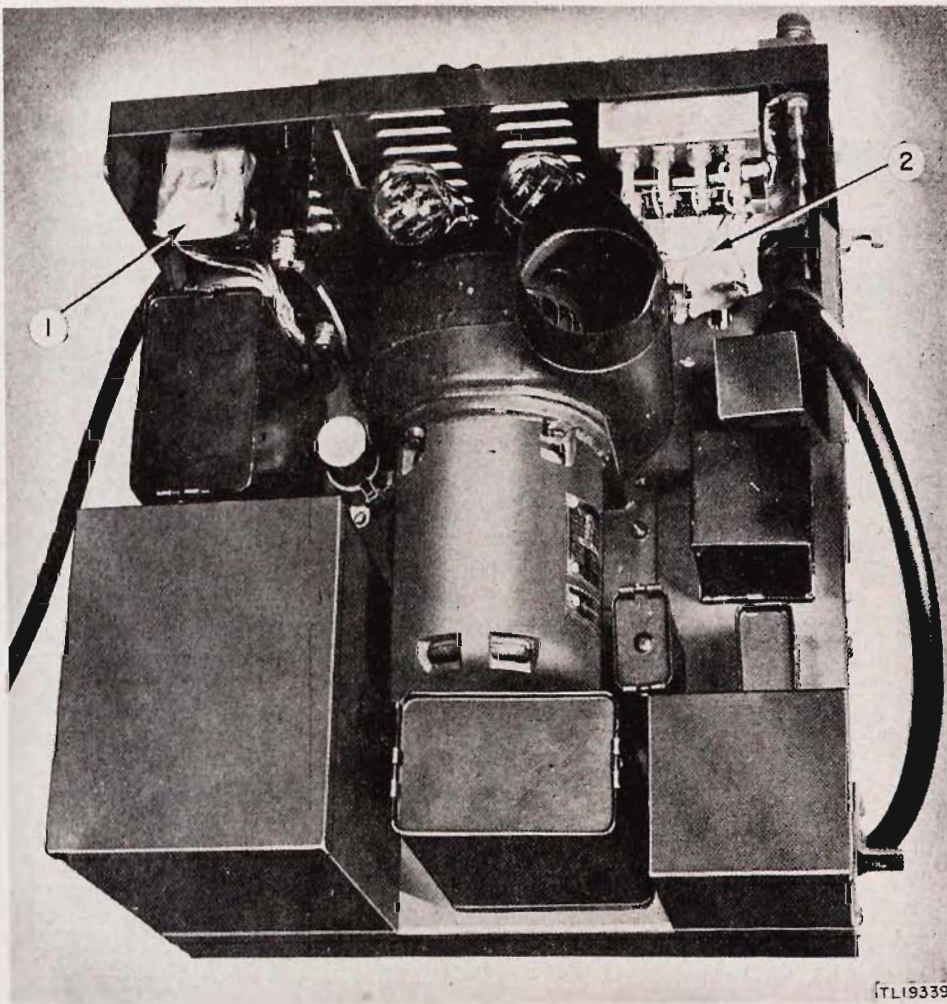

Figure 70. Power Supply PP-115/TRC-8 (XC-3),
- (2) Mask relay (item 1, fig. 70).
- (3) Mask TYPE OF OPERATION switch (item 2, fig. 70).
- (4) Mask sockets of rectifier tubes.